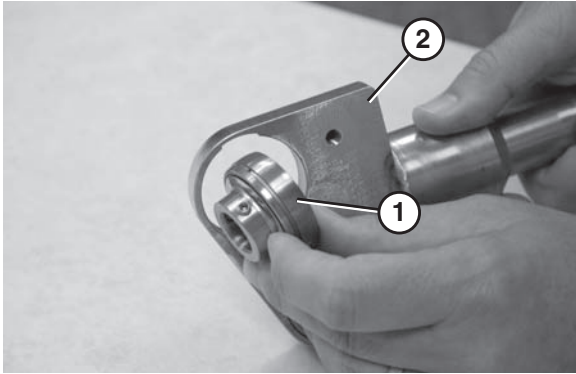

Figure 94
2. Remove the bearing (**Figure 94, item 1**) from the nose bar shaft assembly (**Figure 94, item 2**).